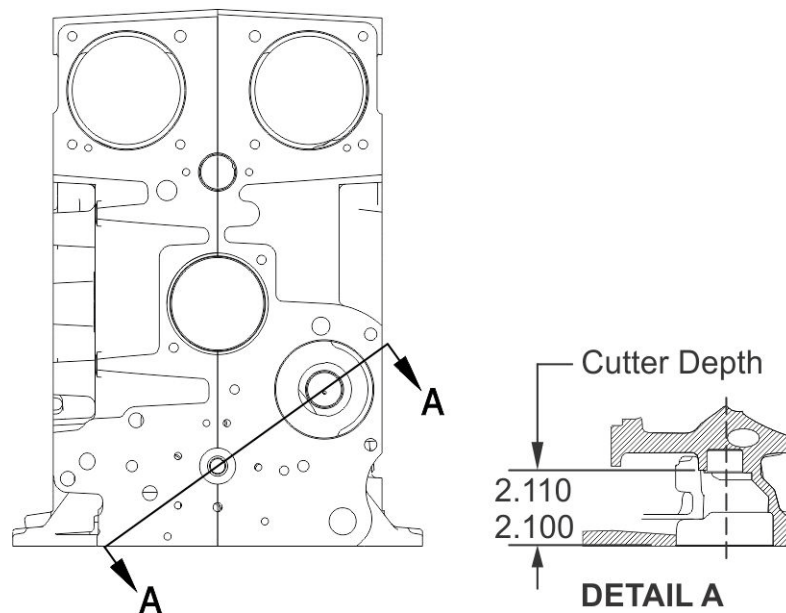

Figure 5. Overhead View of Radius Cut Depth, Permold Crankcase
2. Cut a radius clearance cut in the outside edge of the starter drive needle bearing boss at a depth of 2.100 - 2.110" (see Figure 5) from the crankcase accessory mounting face.